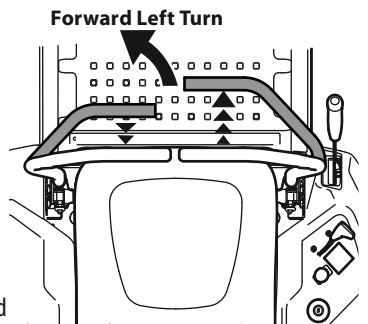

Figure 20
1. To turn to the left, move the left drive control lever rearward of the right drive control lever. See Figure 20.